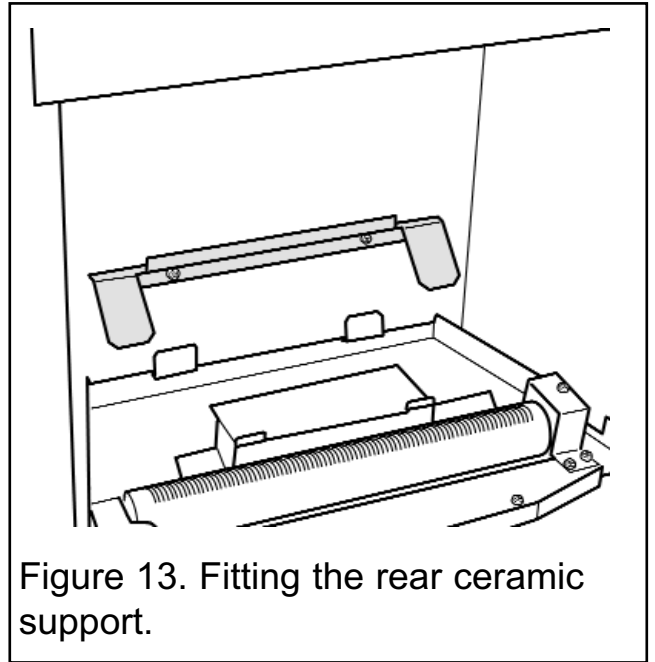

Figure 13. Fitting the rear ceramic support.
7. This appliance is supplied with a rear ceramic support bracket. Fit this using two 'B' screws supplied (See figure 13).